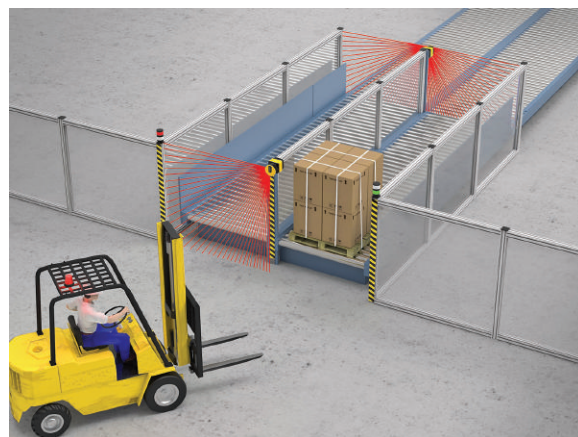

Figure 1-13 Safety laser scanner mounted on a transfer cart.
- A safety laser scanner can be mounted on an automated guide vehicle or transfer cart (Figure 1-13) to